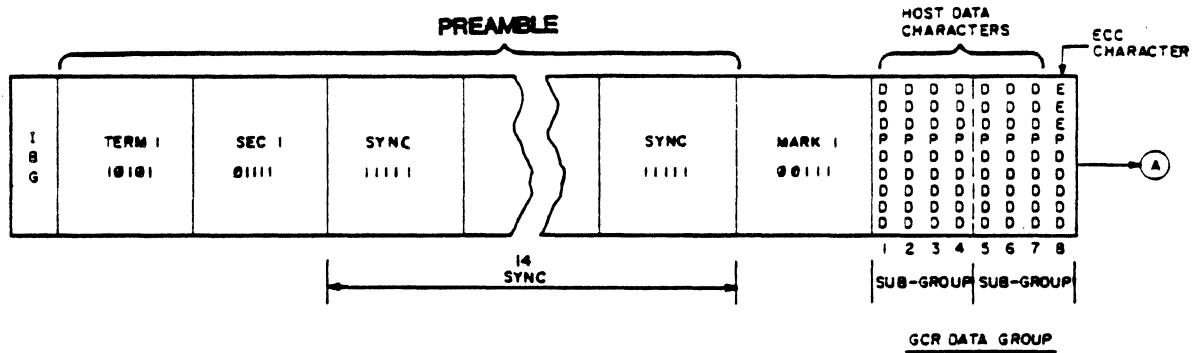

Figure 4-30A. Detail of GCR Tape Format
- o PREAMBLE (see figure 4-30A)
Under control of the formatter logic, the preamble, postamble and resynchronizing codes are generated in the correct sequence, and the data is manipulated to produce a correctly coded data block. After the preamble is generated, data from the interface PWA is clocked through the formatter input circuitry to the 4/5 converter where 4 bytes are converted to 5 bytes. After every seventh byte, an ECC character is generated by the logic from the incoming data and sent to the 4/5 converter. At the end of data transfer, with the LAST WORD signal from the interface PWA, padding characters of zero value are added to the final group to make a complete group. Cyclic redundancy check (CRC) and auxiliary cyclic check (ACRC) characters are generated from the incoming data and inserted in the data block in the appropriate locations. At the termination of data transfer, a postamble is generated and placed at the end of the data block (see figures 4-30A, 4-30B, 4-30C, and 4-30D).